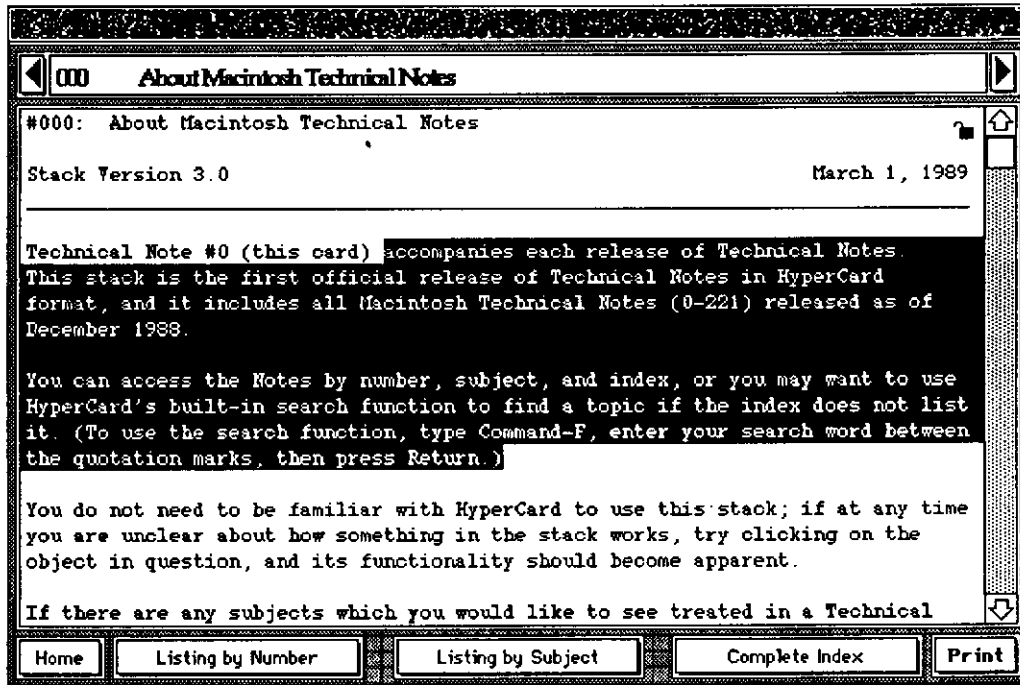

Figure 19—Lock/Unlock Button in Unlocked Mode
If your HyperCard User Level is higher than Browsing (1), then clicking on the Lock/Unlock button will change it to an open padlock and unlock the Technical Note text field so you can select text with which to work as shown in Figure 19.